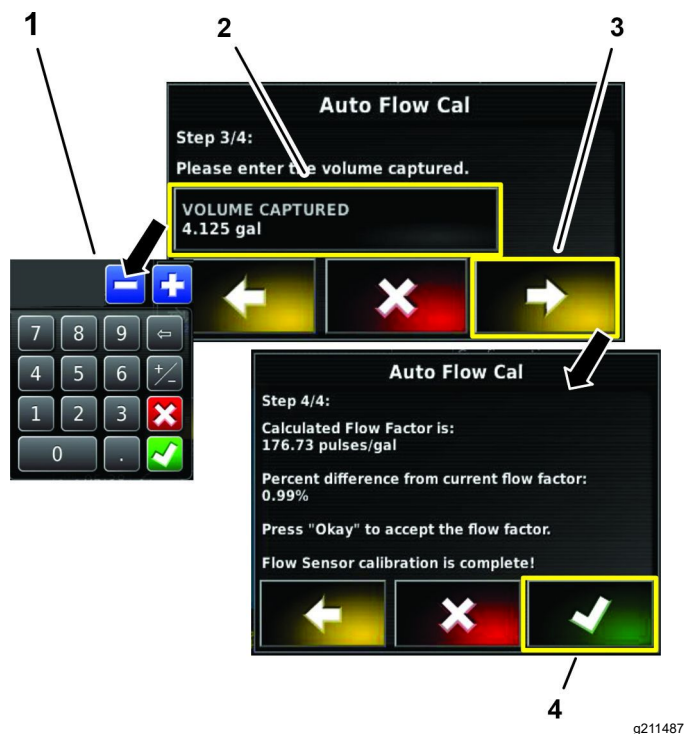

Figure 173
1. In step 3 of 4 in the auto flow calibration wizard, press the VOLUME CAPTURED icon, enter the fluid volume that you converted in step 4 of Calculating the 60-Second Sprayer Volume (page 67) with the on-screen keypad, and press the confirm icon (Figure 173).
2. Press the next icon (Figure 173).
3. In step 4 of 4 in the auto flow calibration wizard, press the confirm icon (Figure 173).